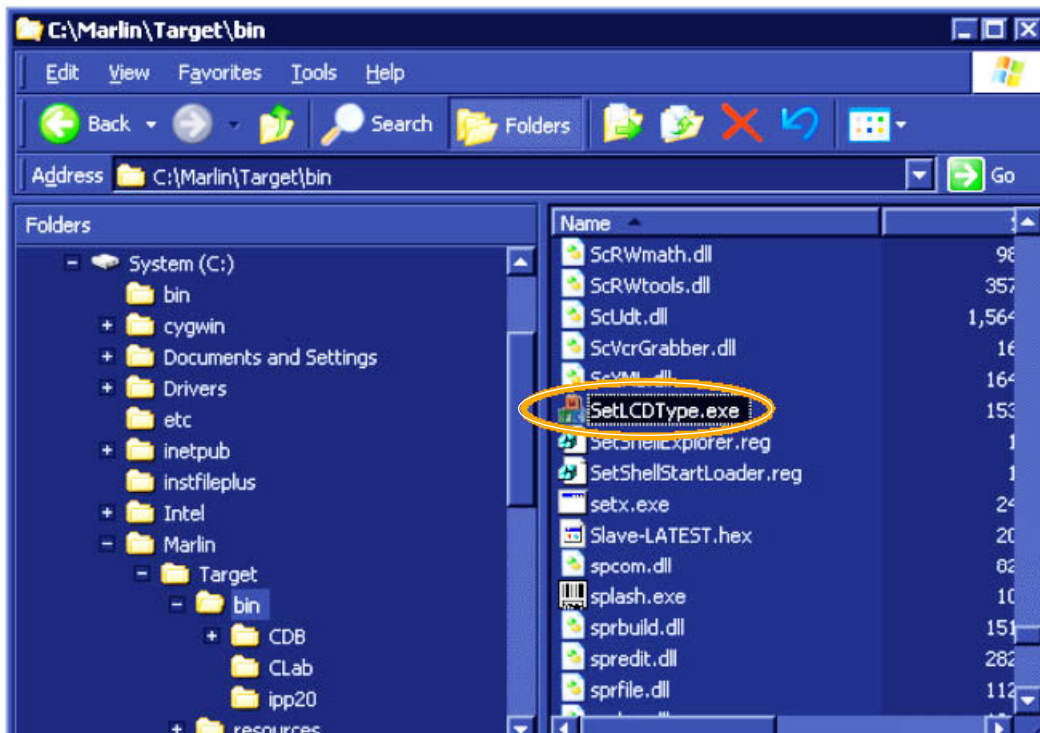

Figure 8-65 Selecting SetLCDType Utility
- 9) From Windows Explorer, go to the directory: **C:\Marlin\Target\bin** (see Figure 8-65 below).